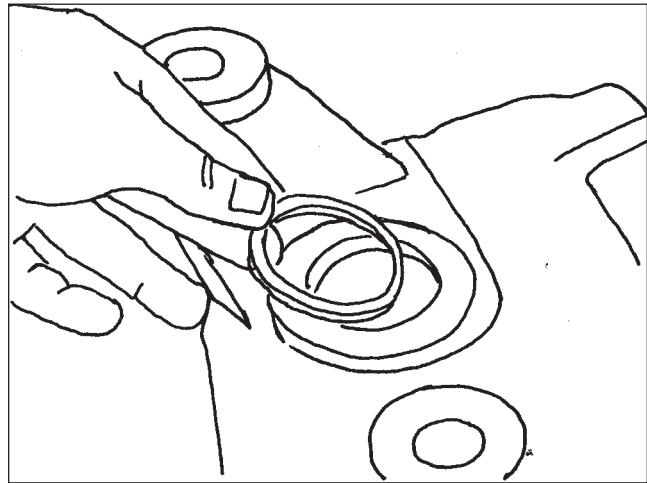

Figure 121
2. Install a new sector shaft seal in the housing (**Figure 121**).